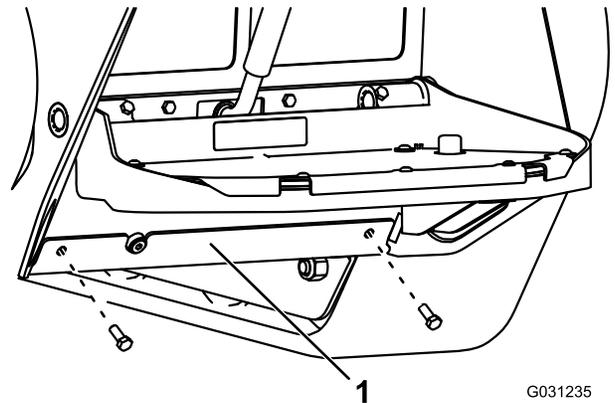

Figure 74
4. Remove the 2 bolts securing the bottom plate and remove the bottom plate (Figure 74).
8. Install the bottom plate (Figure 74).